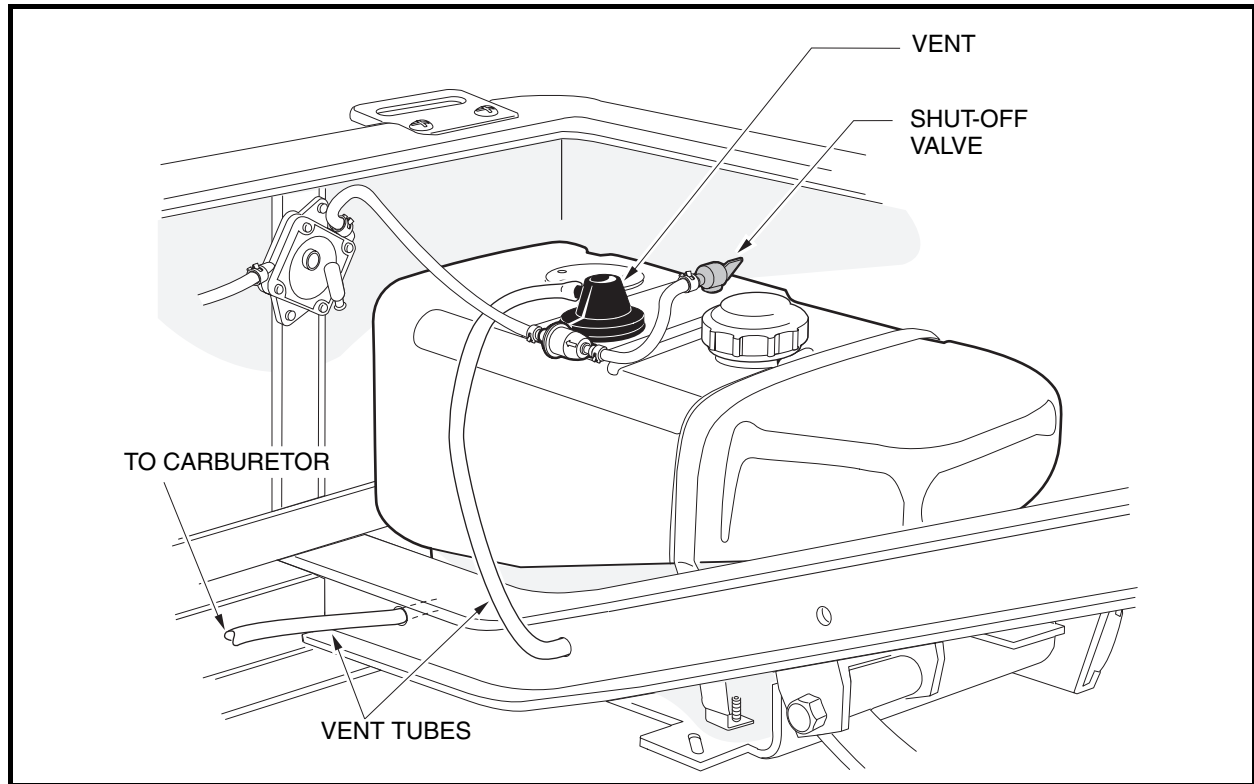
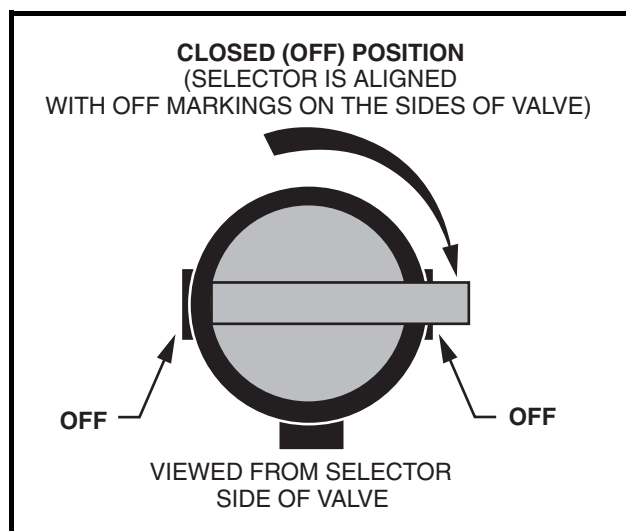

Figure 14-15 Fuel Tank
Figure 14-16 Closed Fuel Shut-off Valve
3. Turn fuel shut-off valve to the closed (OFF) position and run the engine until fuel remaining in the carburetor, fuel pump, and fuel lines is used up and the engine stalls (**Figure 14-16, Page 14-26**).
The fuel shut-off valve is located on top of the fuel tank (**Figure 14-15, Page 14-25**). The fuel shut-off valve should always be turned to the closed (OFF) position during vehicle storage, towing or trailering (**Figure 14-16, Page 14-26**). Unless the engine will be run as part of a procedure, the fuel shut-off valve should also be closed (OFF) before performing maintenance or service procedures.